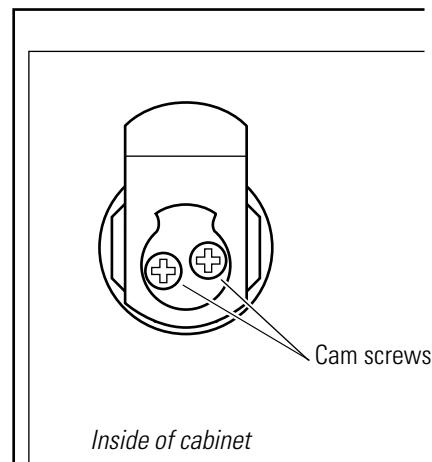

Figure 5.17 Location of cam screws (5E Series cylinder assembly shown)
2. Using a narrow-blade screwdriver, unscrew the two cam screws located on the back of the cylinder assembly. See Figure 5.17.